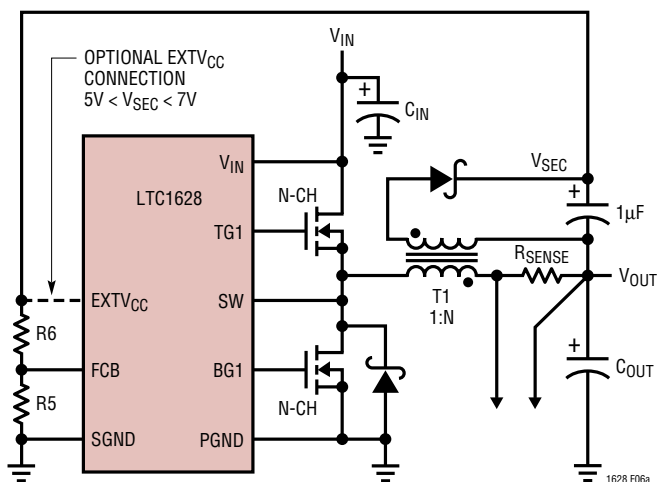
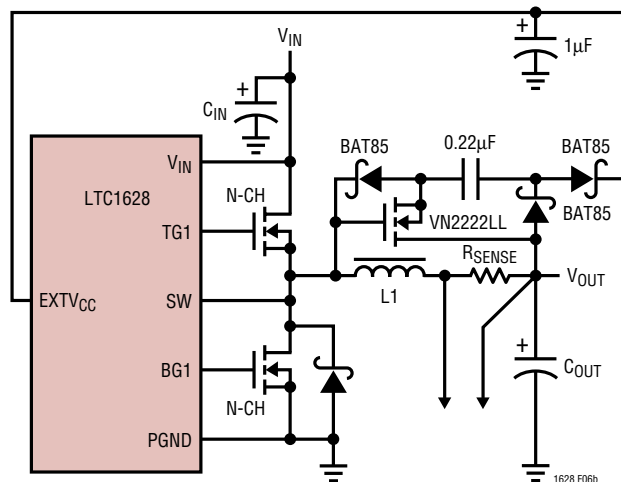

Figure 6a. Secondary Output Loop & EXT_{VCC} Connection
Figure 6b. Capacitive Charge Pump for EXT_{VCC}
4. EXTV_{CC} Connected to an Output-Derived Boost Network. For 3.3V and other low voltage regulators, efficiency gains can still be realized by connecting EXTV_{CC} to an output-derived voltage that has been boosted to greater than 4.7V. This can be done with either the inductive boost winding as shown in Figure 6a or the capacitive charge pump shown in Figure 6b. The charge pump has the advantage of simple magnetics.
The secondary output voltage V_{SEC} is normally set as shown in Figure 6a by the turns ratio N of the transformer: